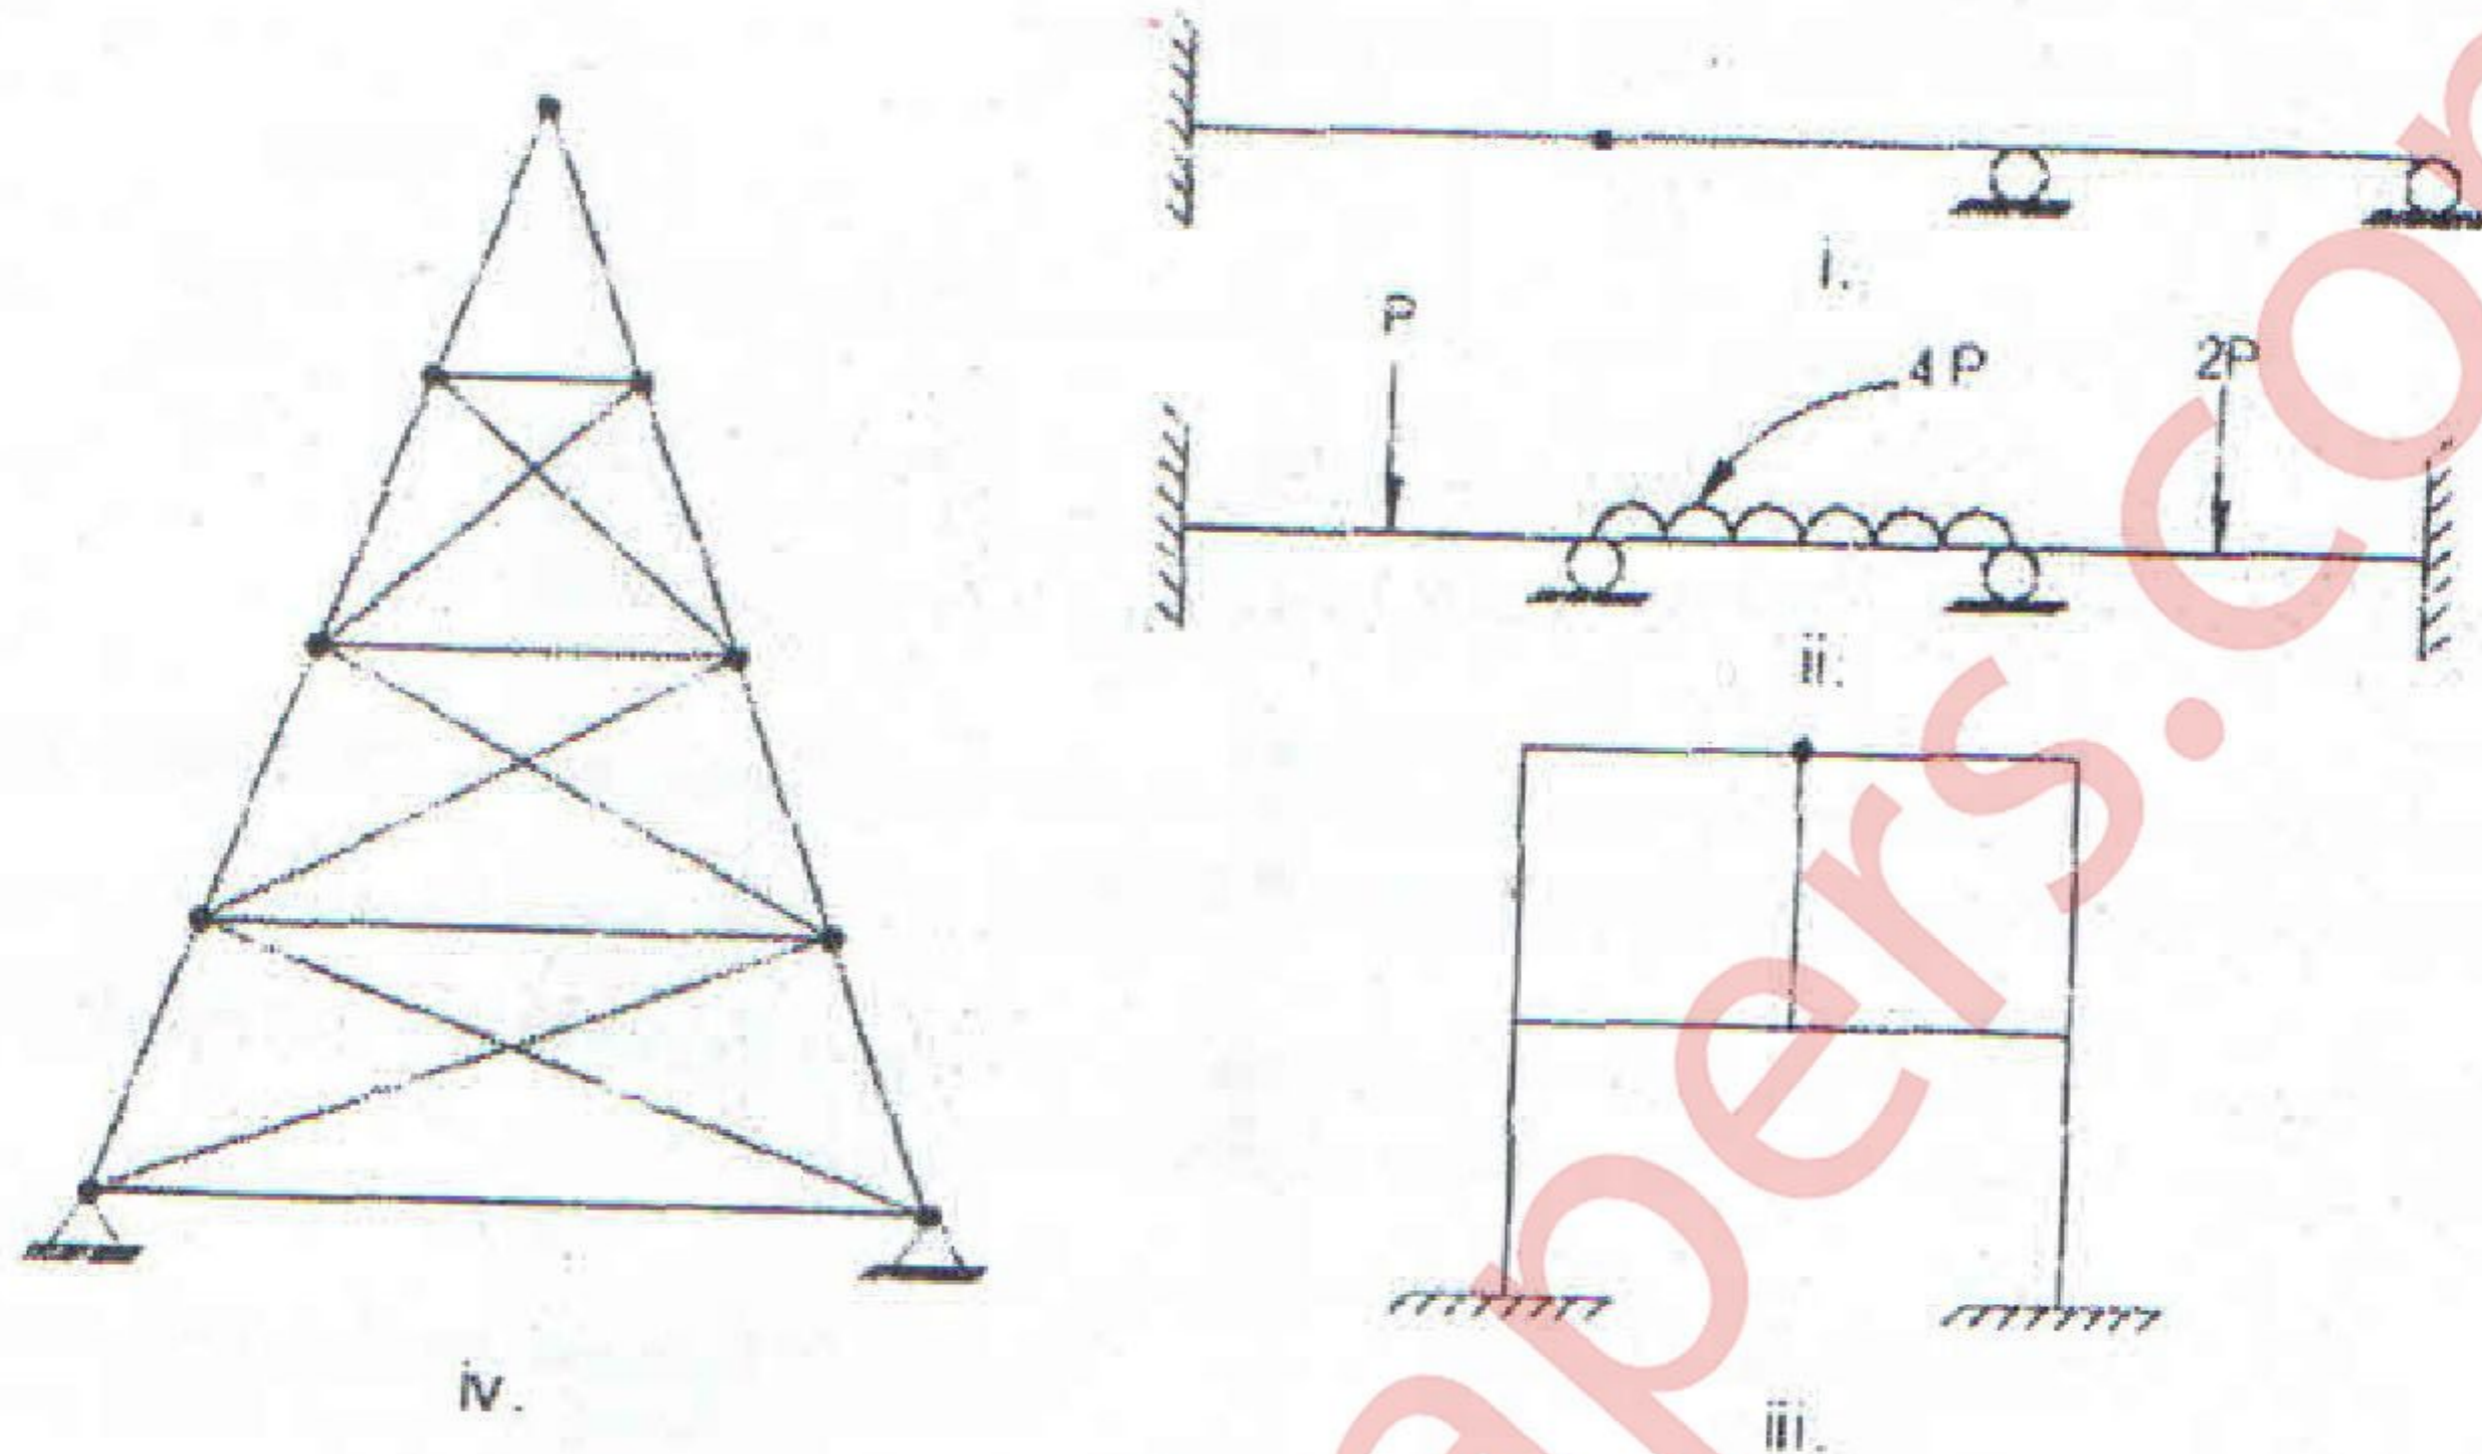

Figure 1
1. (a) To find degree of static and kinematic indeterminacy of structures as shown in figure 1. [8]